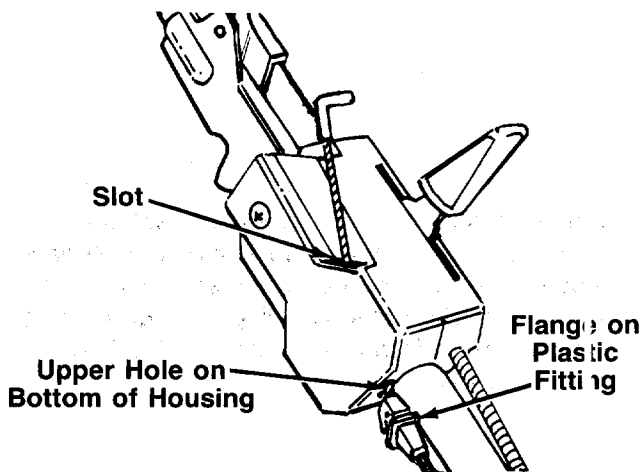

FIGURE 8.
12. The brake/clutch cable is attached to the brake/clutch beneath the deck and has an "L" fitting on the end. Route the brake/clutch cable above the fuel tank mounting bracket and under the lower handle. Place end of cable into the upper hole on the bottom of the control housing, and through the slot on the side of the housing as shown. The angle of the flange on the plastic fitting must be positioned downward as shown in figure 8. Be careful not to bend or kink the cable.